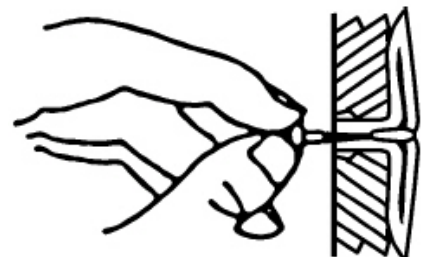

Figure 15 – Popping Open Anchor Wing for Thin Walls
4. For thin walls, (1/2" or less), insert key into wall anchor. Push key to "pop" open anchor wings (see Figure 15).